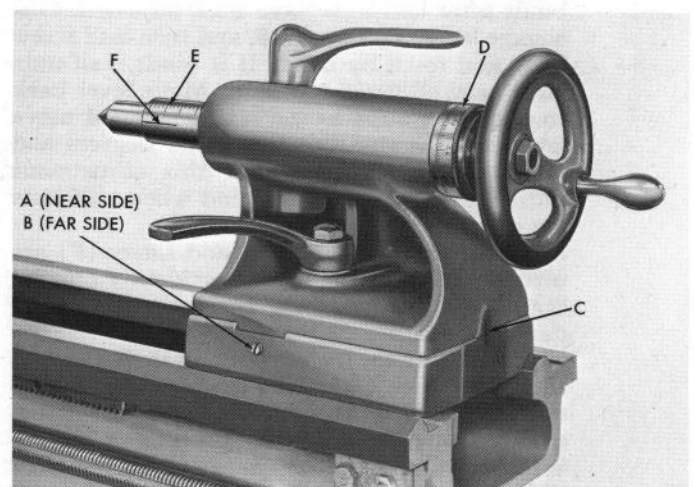

Figure 19
The tailstock as illustrated in Figure 19 has been ruggedly designed and the ram accurately machined with a No. 3 M.T. hole for centers or other tools. To assure proper alignment when mounted to the bed, the tailstock and the tailstock base are assembled prior to machining the ways. The tailstock can be set over $\frac{3}{4}$ " either direction for turning tapers. By adjusting set screws (A) and (B) Figure 19, the proper amount of taper per foot can be obtained. The spacing of the witness marks (C) on the rear of the tailstock indicate the amount of setover. CAUTION: For straight turning the witness marks must coincide.
A collar (D) graduated in thousands of an inch indicates the amount of feed on the ram. It is located adjacent to the handwheel and is a large micrometer collar for ease in reading. The ram has graduations in $\frac{1}{16}$ " for further convenience (E) Figure 19.
The witness mark (F) Figure 19, on the ram of the tailstock is on the centerline. This mark helps the operator to position the cutting tool at the proper height, and is especially helpful when cutting threads or using a cut-off tool.